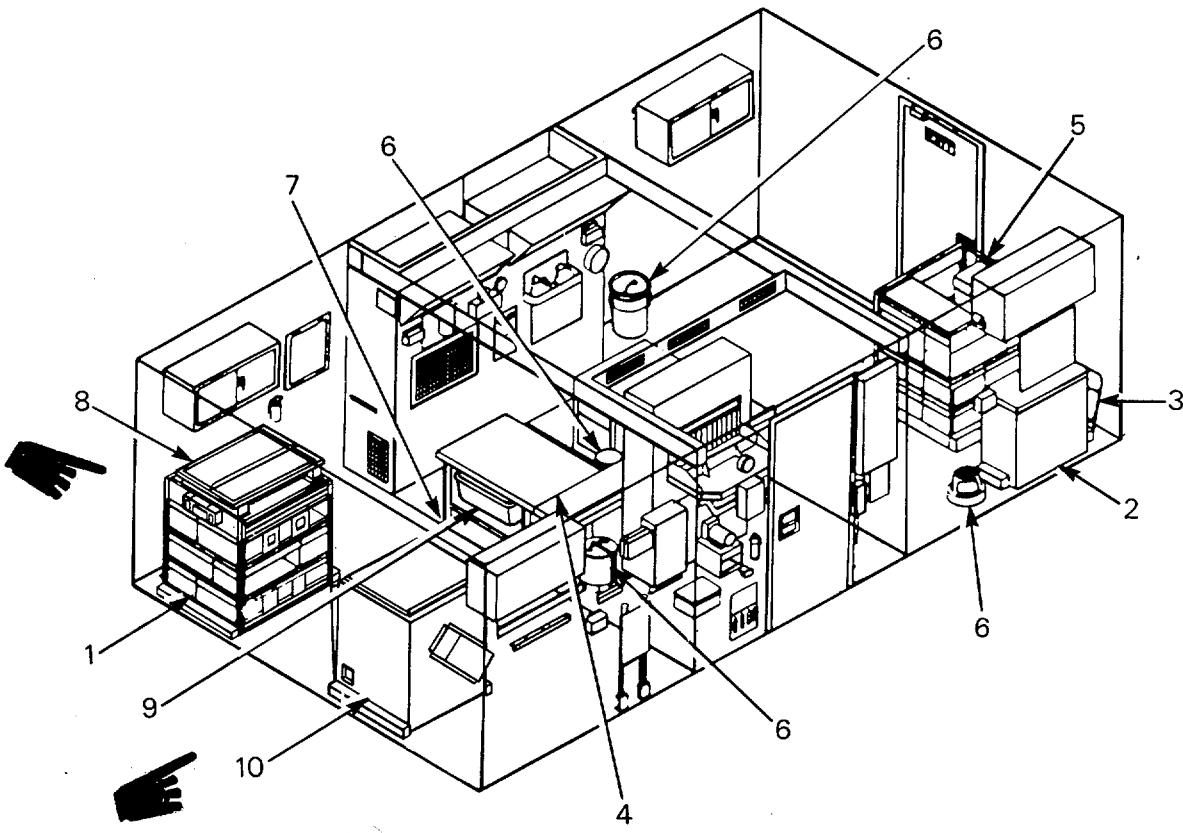

Figure 2-12. Operating Location of Finishing Section Equipment
- c Finishing Section Interior Equipment. Refer to Figure 2-12 for a typical location of Finishing Section equipment when set up for operation. Remove the equipment from the center section of the shelter in the order listed below using T-handle wrench, located to the right of the personnel door, to remove retainer bolts. Store retainer bolts in proper location on transporter assemblies.